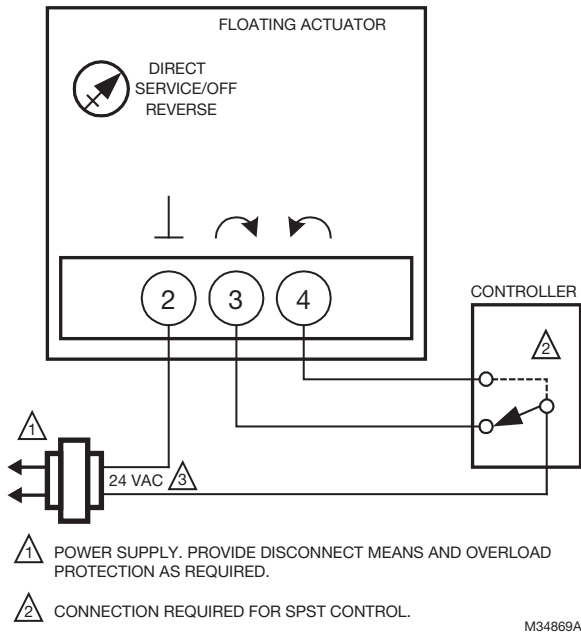

Fig. 5. MN6105 with On/Off SPDT Control.
2. Wire actuator using Figures 5 through 28 for the application required.